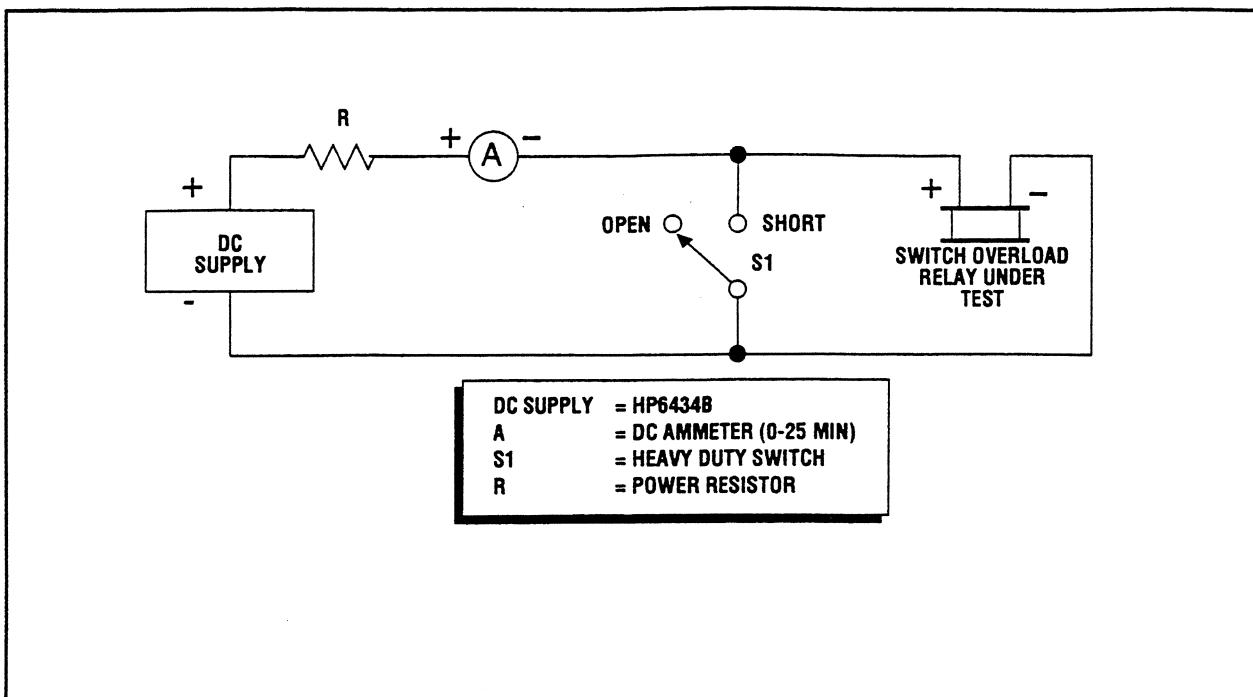

Figure 3-6. Switch Overload Stick Relay, Test Setup
- a. Connect the test setup as shown in Figure 3-6.